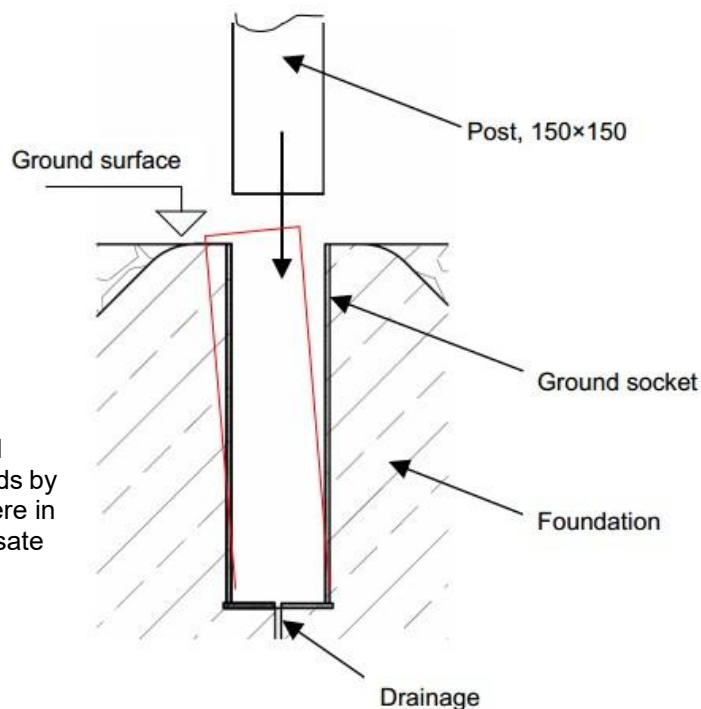
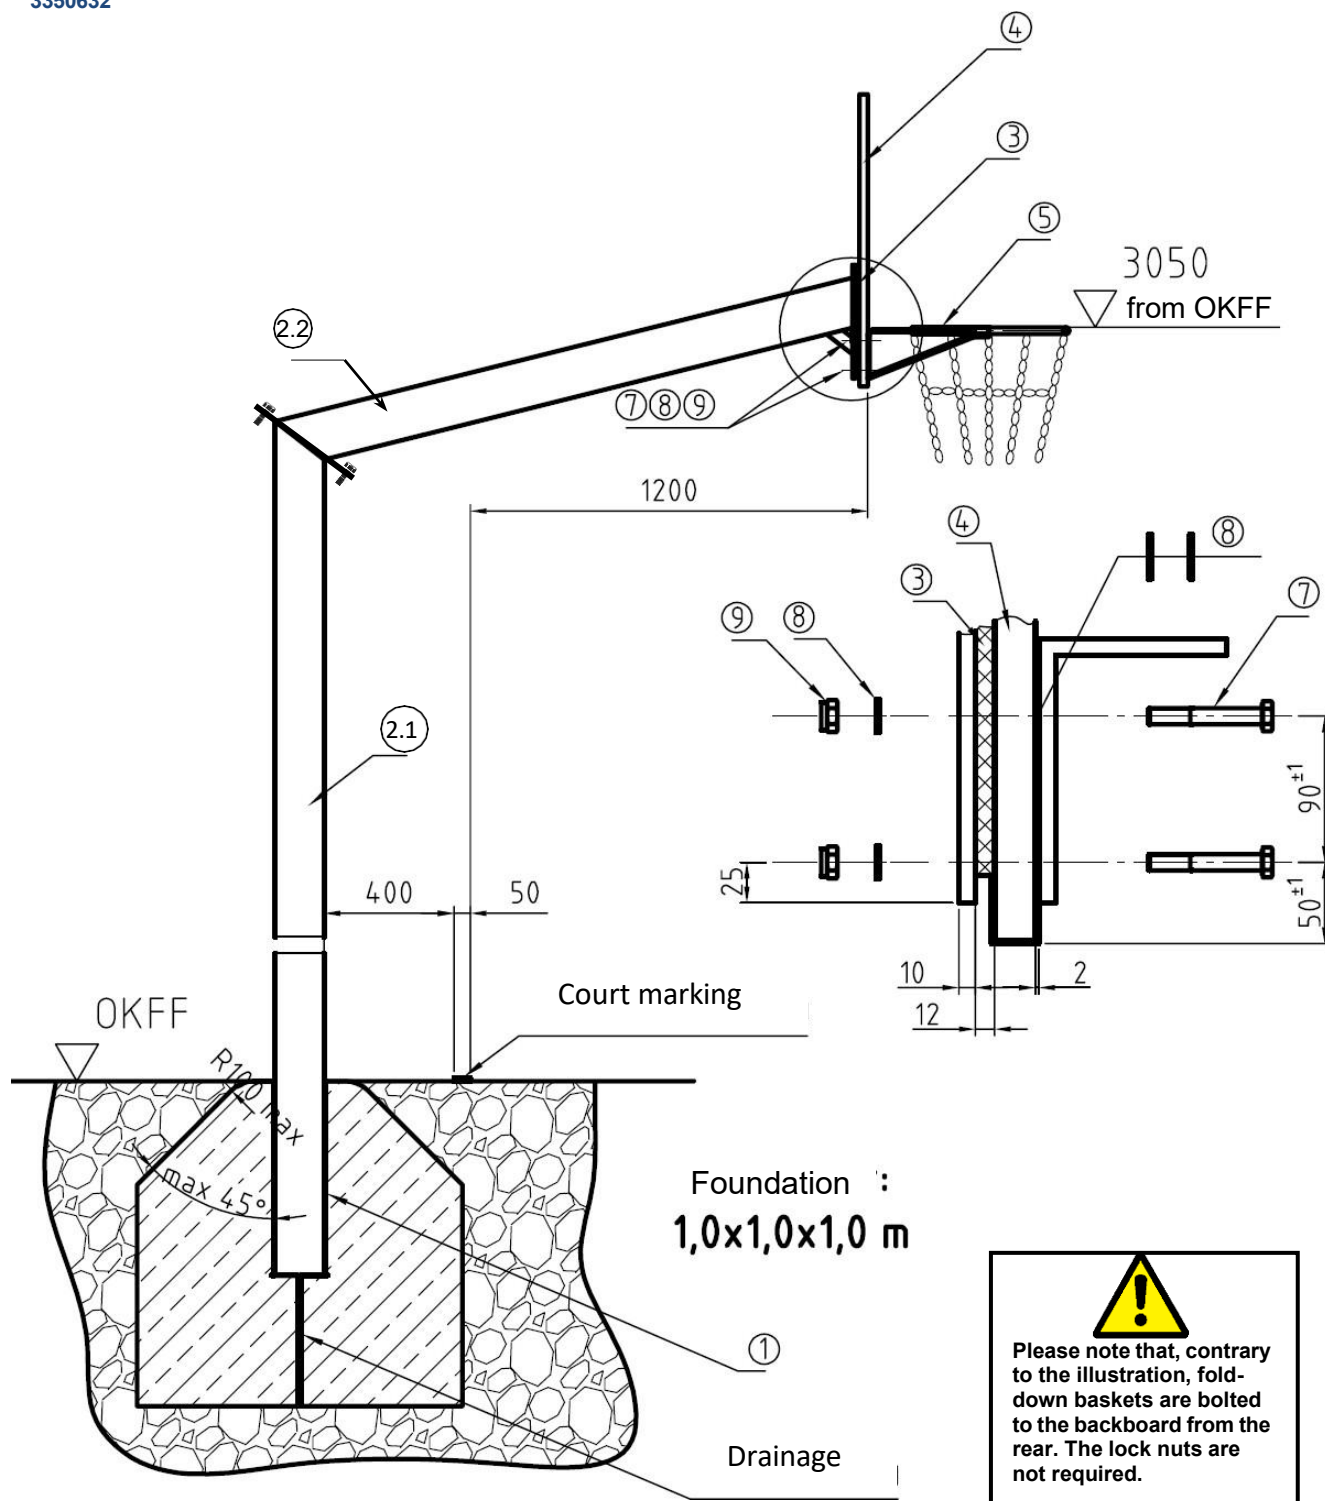

Figure 1: Ground socket installation
Figure 2: Fair Play 2.0 unit without height adjustment
Insert ground socket (1) into the concrete foundation (rounded at the top as shown in figure 1; 1×1×1 m). It should sit flush at the top and be positioned at a 90-degree angle to the court marking. The socket must lean backwards by 4–5 mm to compensate for the top-heavy system. To extend the life of your unit, ensure any rainwater can drain away via a channel underneath the ground socket or through an empty pipe inserted into the foundation (see figure 2).
Attach the basketball backboard (4a or 4b) and hoop (5a or 5b), as shown in figure 2 using M10×80 machine screws (7), washers (8) and nuts (9) – variant 4a must be attached from the front, and variant 4b from the back. Insert the damping pad (3) as insulation between the bracket on the post and the backboard. Also insert the washers between the hoop and the backboard as shown in figure 2.
The washers (8) are not required for the assembly. See figure 2 for further details regarding installation.
The damping pad, the relevant backboard and the hoop are attached to the front of the height adjustment feature (see figures 2 and 3 for details).